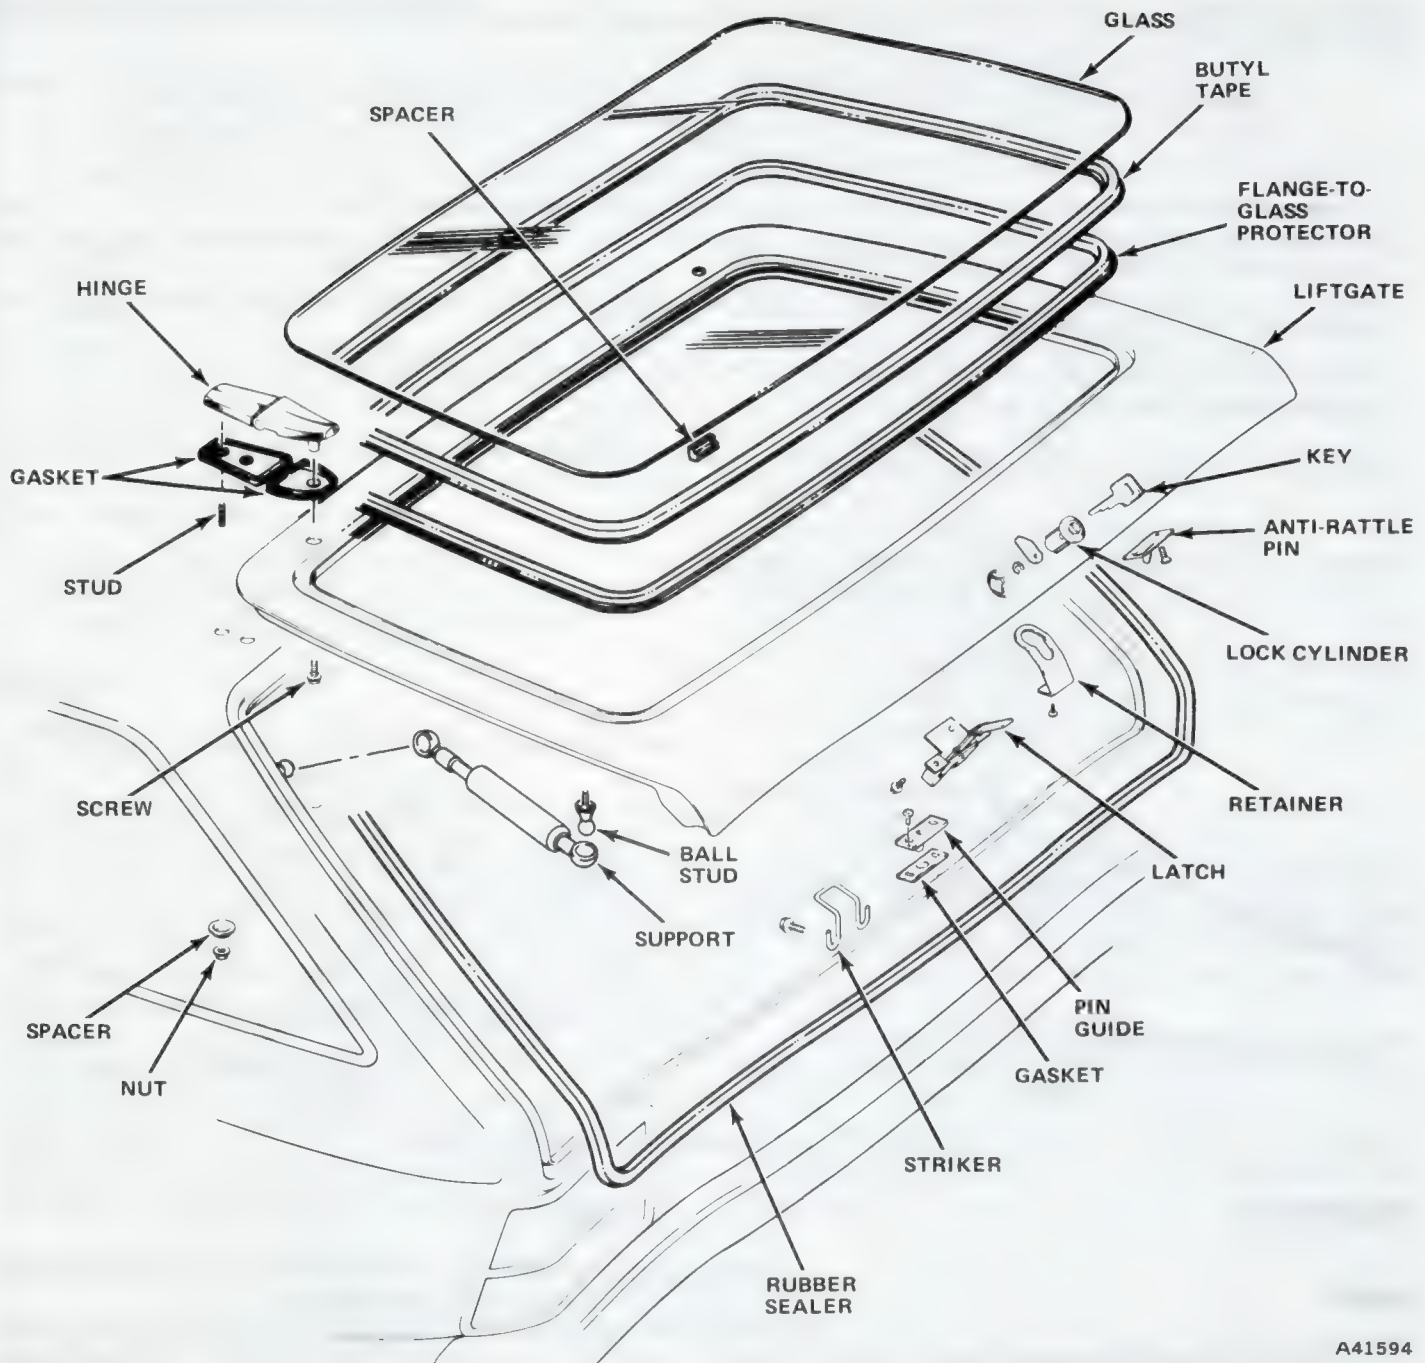

Fig. 3H-15 Concord Wagon Liftgate Components
The striker (fig. 3H-15) provides a secure retention point for the latch and limits movement of the liftgate. It consists of a formed wire loop, cushioned with a rubber sleeve, attached to the back panel assembly with two screws.
WARNING: Never remove supports with liftgate closed. The supports contain high pressure gas and may cause damage or personal injury if removed with liftgate closed. After removal, do not attempt to dismantle or repair the supports. Refer to figure 3H-16 for specific instructions for disposal.
- (1) Prop liftgate in full-open position.
- (2) Remove retainers (fig. 3H-15) attaching support ball sockets to ball studs.
- (3) Pull support ball sockets from ball studs and remove support.